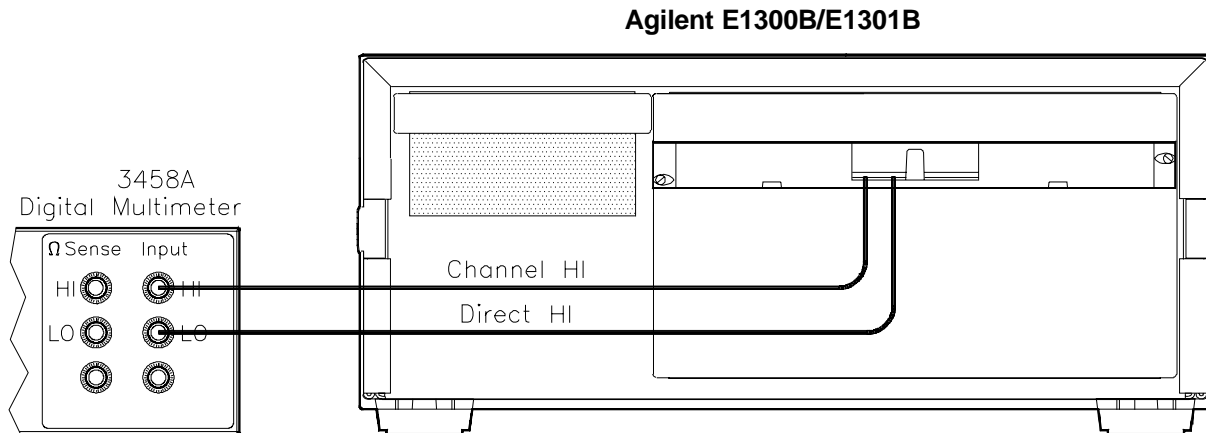

Figure 2-2. HI Channel Resistance Test Connections
- Connect DMM as shown in Figure 2-2